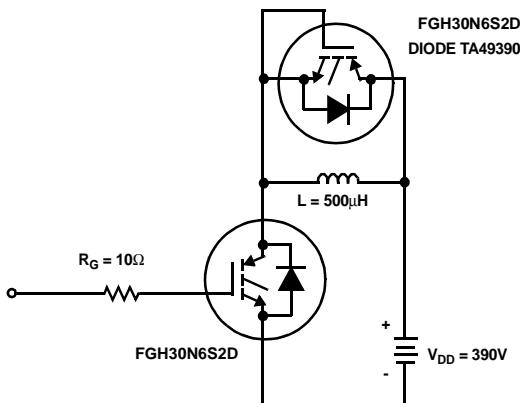

Figure 26. Inductive Switching Test Circuit
2. Values for two Turn-On loss conditions are shown for the convenience of the circuit designer.  $E_{\text{ON}1}$  is the turn-on loss of the IGBT only.  $E_{\text{ON}2}$  is the turn-on loss when a typical diode is used in the test circuit and the diode is at the same  $T_J$  as the IGBT. The diode type is specified in figure 26.